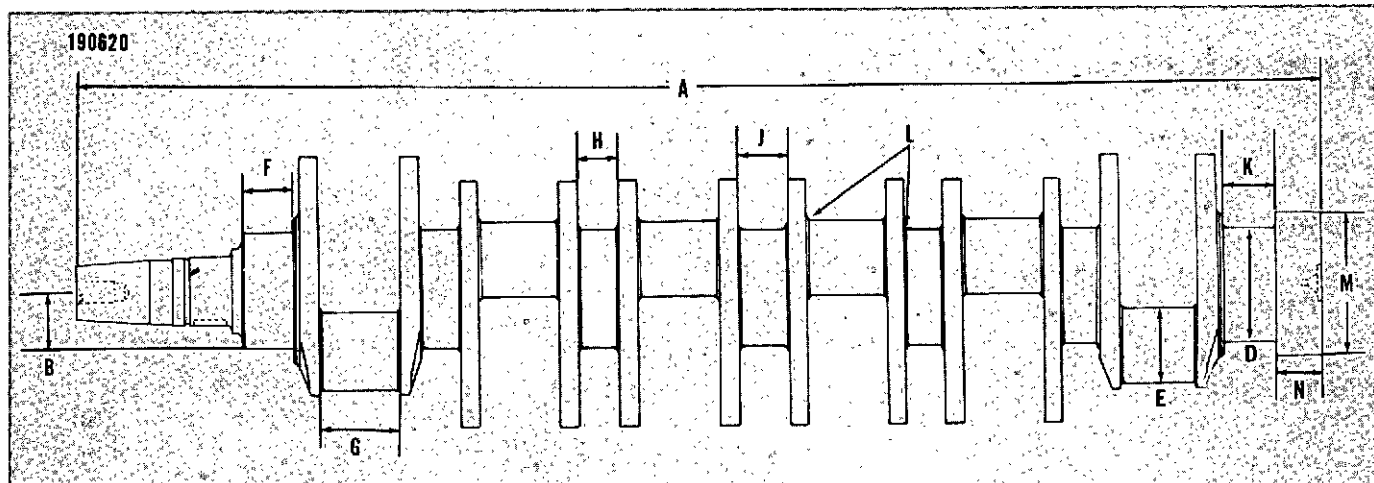

Fig. 1-4-4, V40181. Crankshaft dimension
c. Measure for thrust flange wear by checking K dimension. Fig. 1-4-4.